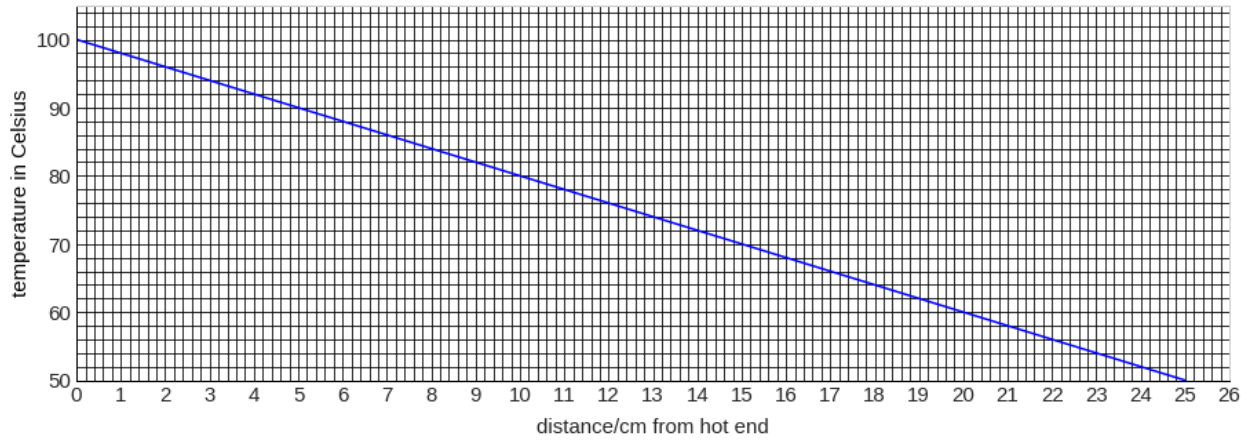
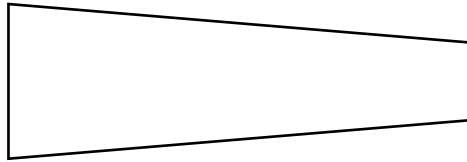

Fig. 8.2
Fig. 8.3
When the temperatures have stabilized, the variation of temperature with distance from the hot end is shown in Fig. 8.2.
- (d) (i) Draw on Fig. 8.2 another graph if the cross-sectional area of the metal bar decreases with distance from the hot end to the cold end, as shown in Fig. 8.3.
Draw another graph on Fig. 8.2 to show how the temperature varies with distance from the hot end to the cold end.